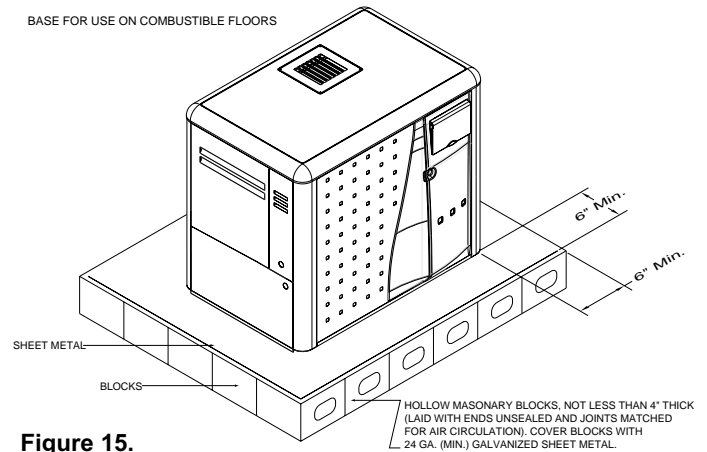

Figure 15.
- b) Construct a non-combustible base from masonry blocks as illustrated, see Figure 15.